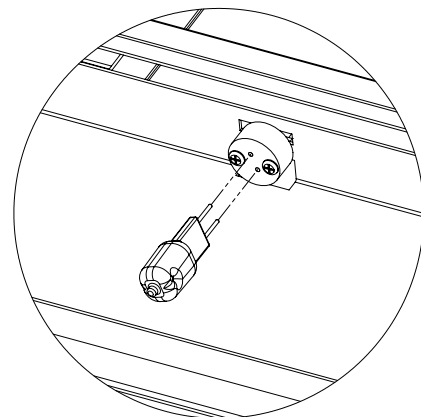

Figure 24: Halogen Bulb Replacement
6. Wear cotton gloves when replacing halogen bulbs. Grab bulb firmly at the base and pull straight out to remove; replace bulb as necessary. Grab new bulb by the styrofoam sleeve - it is vital that your bare fingers do not contact the bulb (see Figure 24). **The oils from your fingers will greatly reduce the life-span of the bulb.**